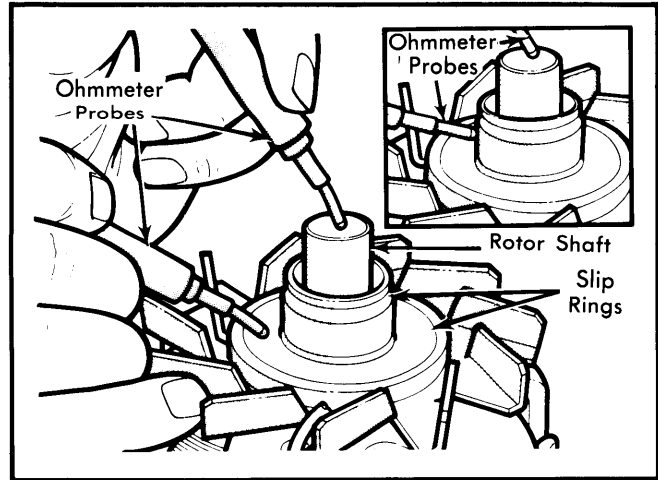

Fig. 6 Ohmmeter Probe Connections for Rotor Ground Test
- 1) Test rotor for grounded, open or shorted field coils, using an ohmmeter. See Figs. 6 and 7. Test for grounds between each slip ring and rotor shaft. No continuity should exist.